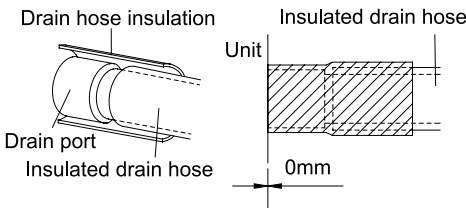

Fig.20
9. Be sure to insulate where the drain port and the drain hose is connected.(Fig.20)